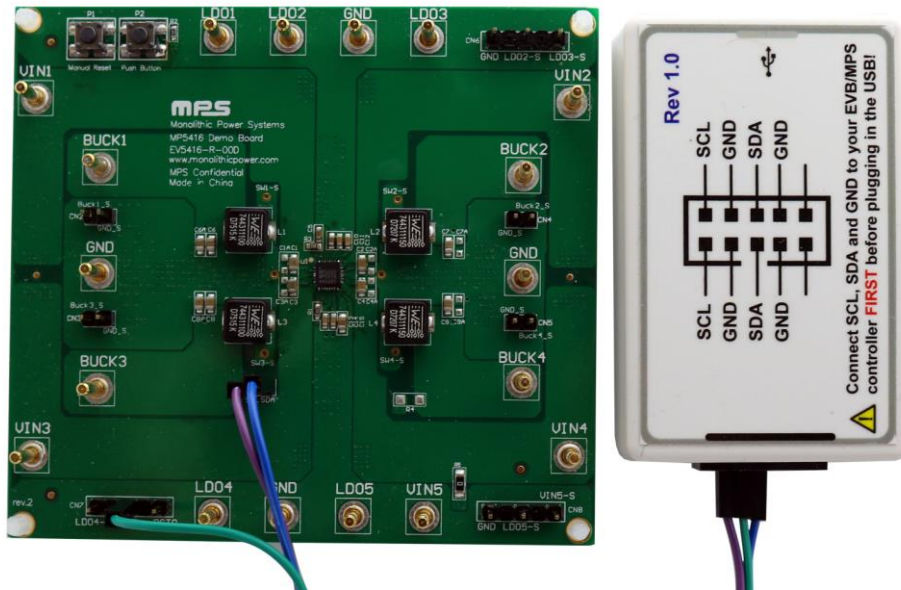

Figure 6: EVB to MPS I²C Dongle Wire Connection
2. Connect SCL, SDA, and GND (see Figure 6). If needed, refer to the datasheet for further clarification.
2. Ensure connection between the EVB and computer (see Figure 6).